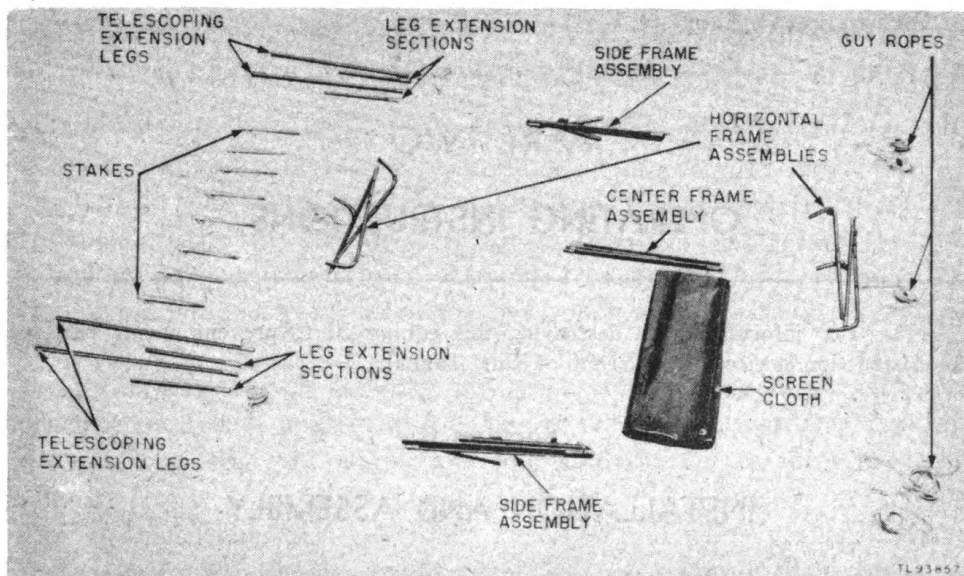

Figure 3. Component parts of Screen PH-555/GF laid out before setting up.
2. Component Parts (fig. 3)
3. Detailed Description (figs. 3 and 6)
- a. Remove all the parts from the case and lay them out. (See fig. 3.)